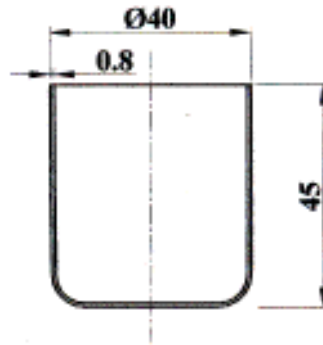

Fig. 3
3. Design a drawing die for the shell shown in fig. 3 drawn from CRC sheet of 0.8 mm thickness and $UTS = 240 \text{ N/mm}^2$.